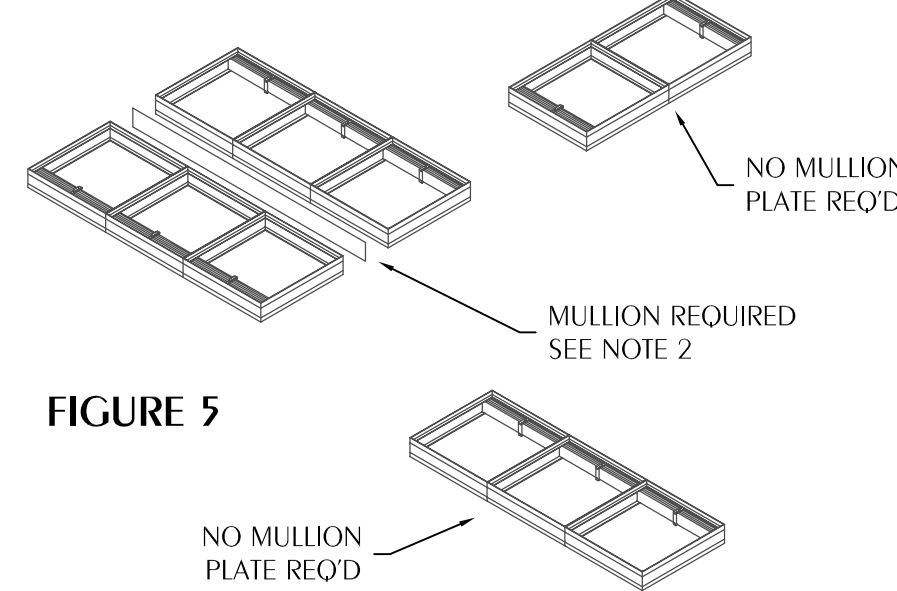

FIGURE 5
Multiple section horizontal mount dampers require a 1/4" (6.4) thick x 4 1/2" (114) wide steel reinforcing plate sandwiched between the damper leaves with 1/2" (12.7) long welds staggered transversely and spaced on maximum 6" (152) centers. The reinforcing plate must be the same material as the dampers. The length must be equal to the damper width of two or more adjoining damper sections. Reinforcing plates are not required for assemblies consisting of two dampers attached end-to-end or three dampers attached side-to-side as depicted in figure 5.